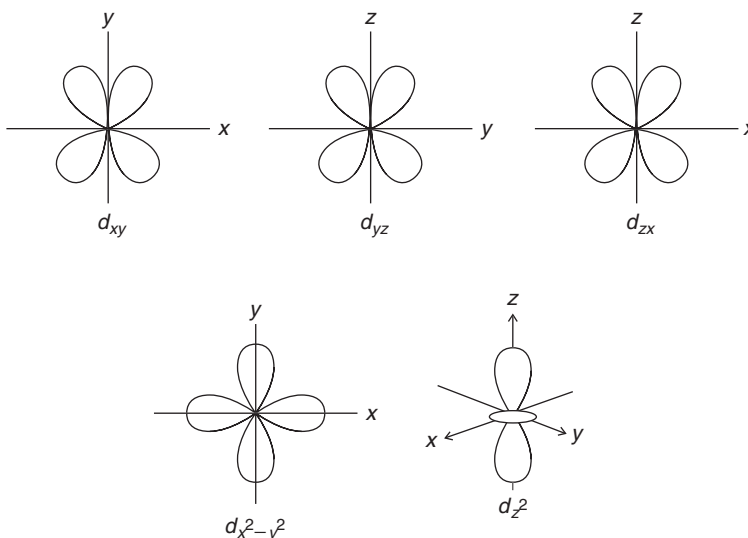

Figure 1 Orientations of five  $d$ -orbitals of a free metal ion.
2.  $d$ -orbitals of central metal ion are divided into two groups depending on their orientation in space. One of the groups consists of three orbitals ( $d_{xy}$ ,  $d_{yz}$  and  $d_{zx}$ ), which are oriented in the regions in between the coordinate axes. These three orbitals are called non-axial orbitals. The other group comprises two orbitals ( $d_{x^2-y^2}$ ,  $d_{z^2}$ ) which are oriented along the coordinate axes. These two orbitals are called axial orbitals. All these five orbitals of a free metal ion have the same energy and hence are called degenerate  $d$ -orbitals. The orientations of  $d$ -orbitals of a free metal ion are shown in Figure 1.